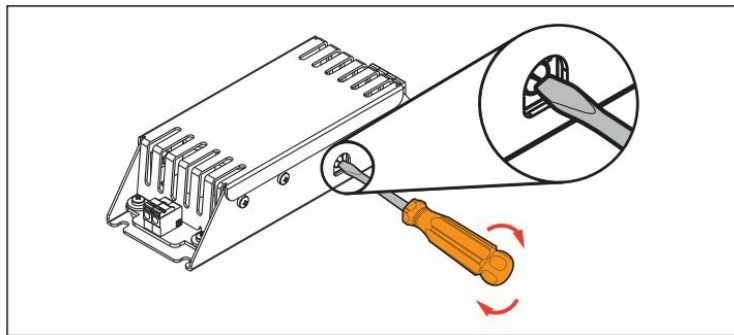

Figure 1. Turning dial with screwdriver
- Jandy®: J-Series (1)
- Hayward® Industries: H-Series (2)
- Pentair® Water Pool and Spa, Inc.: P-Series (3)
2. Using a flathead screwdriver, rotate the dial on the side of the Smart Sync LED Adapter to the corresponding number for the series you want to select (see sticker on LED adapter). See Figure 1.